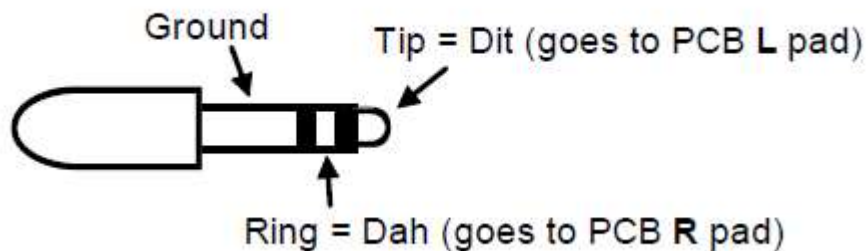

Figure 5 – Paddle Connector Pinout
- 6) Now is a good time to wire up the paddle interface, there are three leads; left paddle to L, right paddle to R, and common ground to G. (See Fig 5. page 6 for more details)
Fig 5 illustrates the most common way paddle set plugs are wired. The mating jack on WK3serial should be wired to work with this convention.